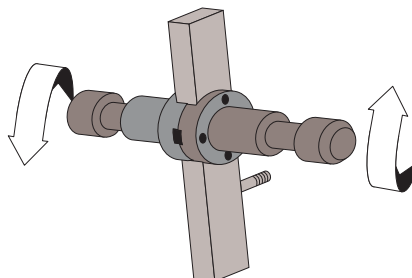
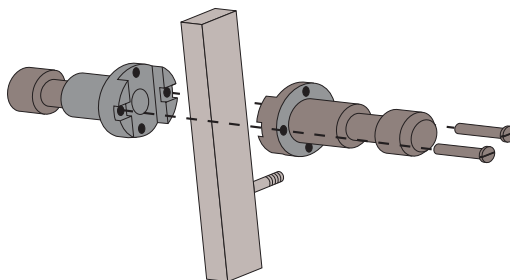

Figure 5-22 Loosening the waveguide stabilizers.
Figure 5-23 Removing/Installing the waveguide stabilizers.
6. **Disconnect the cavity.** While grasping the waveguide attached to the cavity with one hand, unscrew the four waveguide screws joining the two sections of waveguide. (See Figure 5-20.) Loosen the waveguide stabilizers by rotating the screws and carefully remove the cavity from the air gap of the magnet. (See Figure 5-22.) Take care not to lose the gasket which was between the two wave guide flanges. Remove the waveguide stabilizers. (See Figure 5-23.) Seal the cavity with the solid collets and put the cavity in a safe clean place.
7. **Install the waveguide stabilizers on the new cavity.** (See Figure 5-23.) Visually position them just above the magnet pole caps.